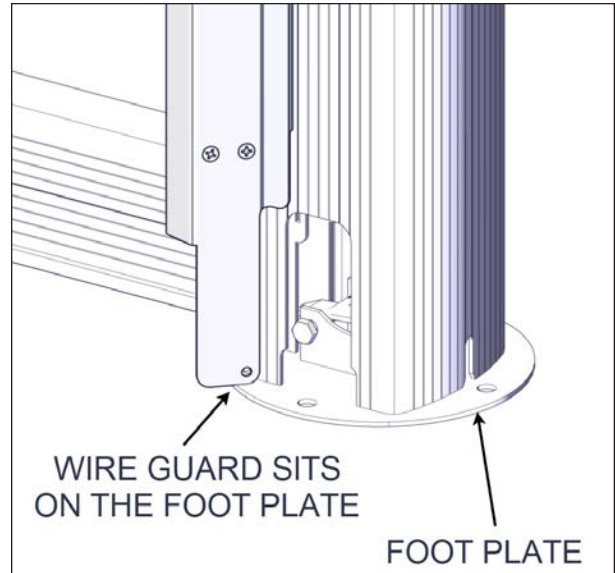
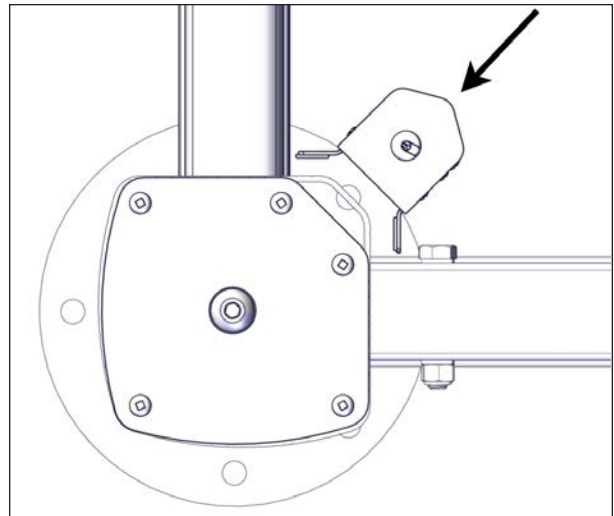

FIGURE 58: WIRE GUARD BOTTOM POSITION
FIGURE 59: WIRE GUARD POSITIONING
12. Align and position the bottom of the wire guard on the foot plate that lines up with the inner shell hole see Figure 58.
13. Fit the wire guard on the corner of the post. Make sure no wires are pinched and that the wire guard is well leveled before adhering it to the sleeve see Figure 58 and Figure 59.